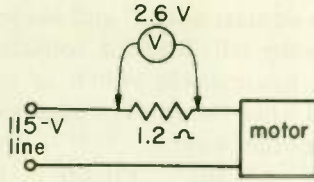

Fig. 52
14. Many electronic technicians do not have an ammeter that will measure currents greater than one ampere. However, it is easy for them to measure a larger current if they need to do so. To measure the current taken by the motor in Fig. 52, the technician inserts a 1.2- Ω resistor in series with the motor. He then measures the voltage across that resistor, which is 2.6 V. How much current does